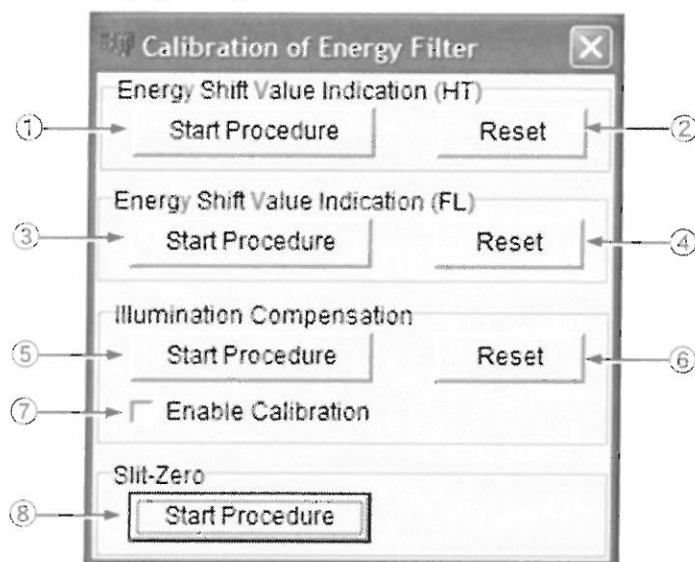

Fig. 5.36 Calibration of Energy Filter window
Clicking on **Calibration** (Fig. 4.42-⑰) in the Filter Tuning window will display the calibration window (Fig. 5.36).